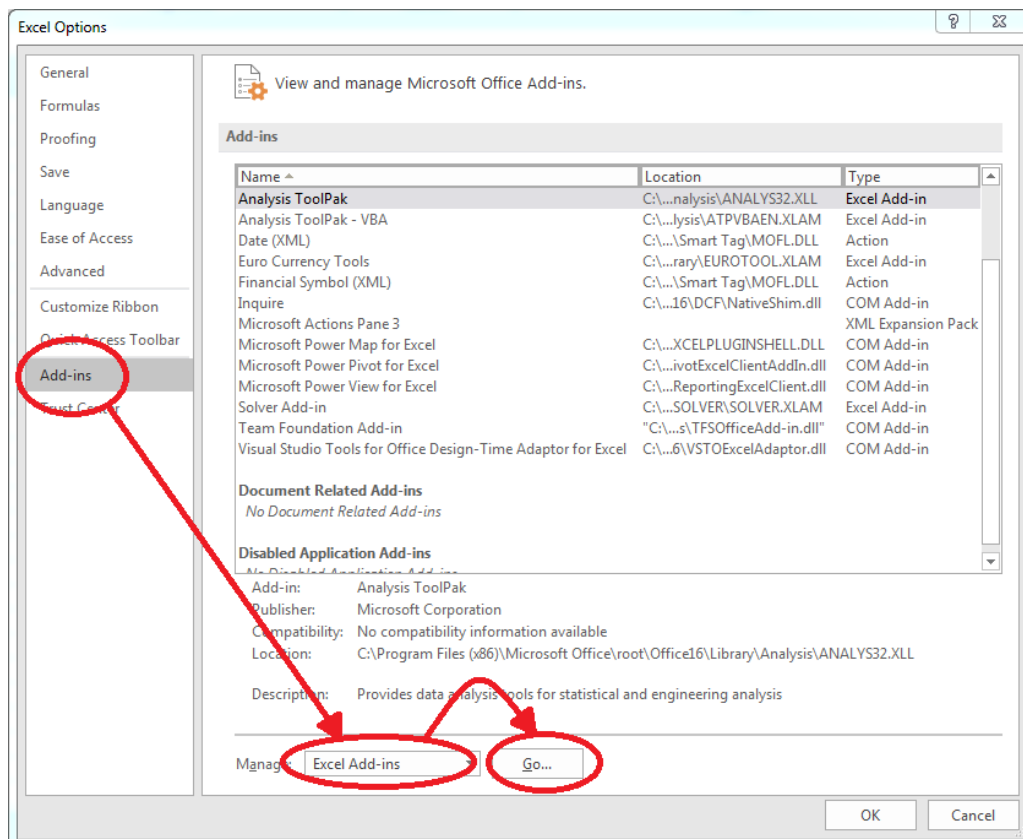

Figure 2.19: Dialog window "Add-Ins"
- Click on "Add-Ins" in the next menu (Figure 2.19)